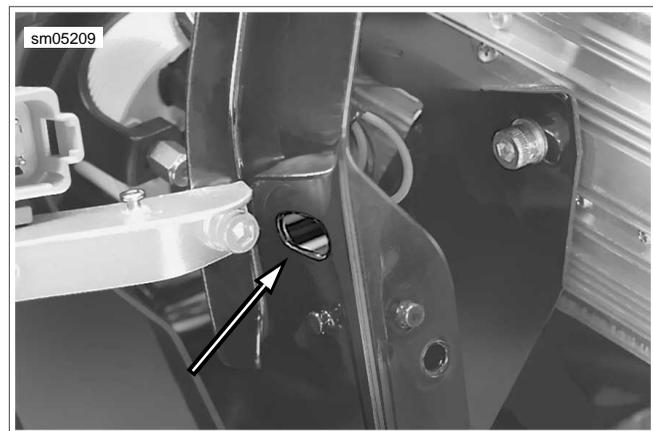

Figure 8-113. Cable Strap Conduit to Fairing Bracket (Right Side)
11. Using oval shaped hole at side of right fairing bracket, install **new** cable strap capturing convoluted tubing of radio connector [27] and conduit of main to interconnect harness connector [1], main to interconnect harness connector [15] and right handlebar switch connector [22]. See Figure 8-113.